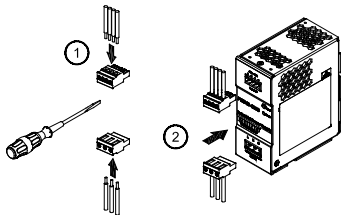

Figure 4
Caution: "Must tighten wire to terminal block (Fig. 4 (1)) before plugging into the terminal block connection (Fig. 4 (2))". In accordance to EN 60950 / UL 60950, flexible wires require ferrules.